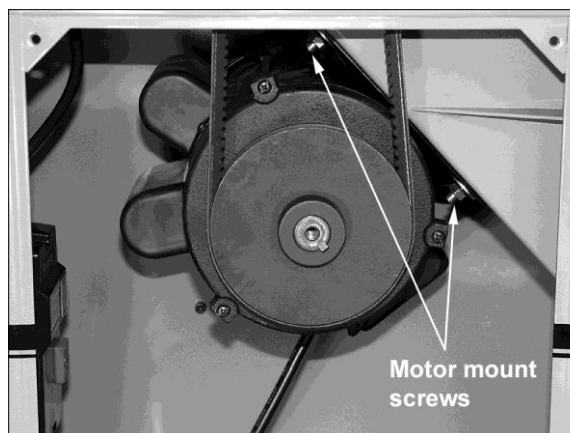

Figure 7
Refer to Figure 7.
3. Reach through the dust chute opening in the side of the stand with a 12mm wrench, and keep the motor mount screw heads stationary, while loosening the hex nuts with a second 12mm wrench from inside the stand (Figure 7).
6. Tighten the four hex nuts on the motor mount screws (Figure 7).